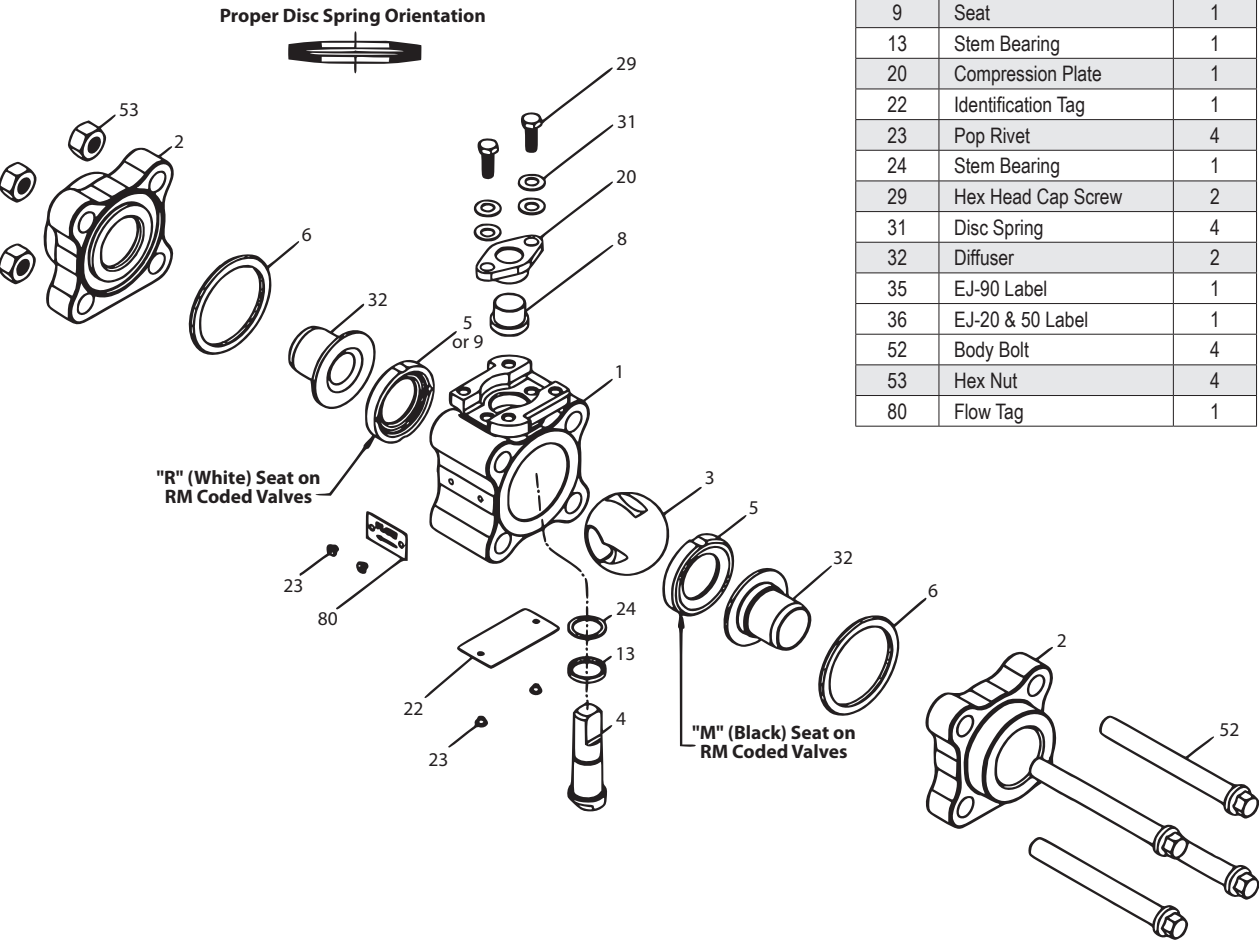

Figure 5.
- c. From **Figure 5**, the ballooned part number, part name and quantity required.